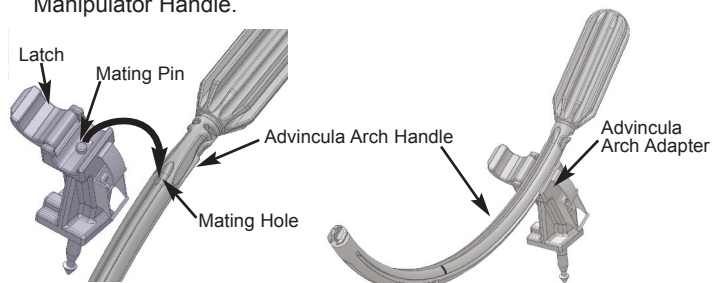

Figure 2. Attaching the Advincula Arch Handle
1. Open the Latch on the Adapter (see Figure 2).